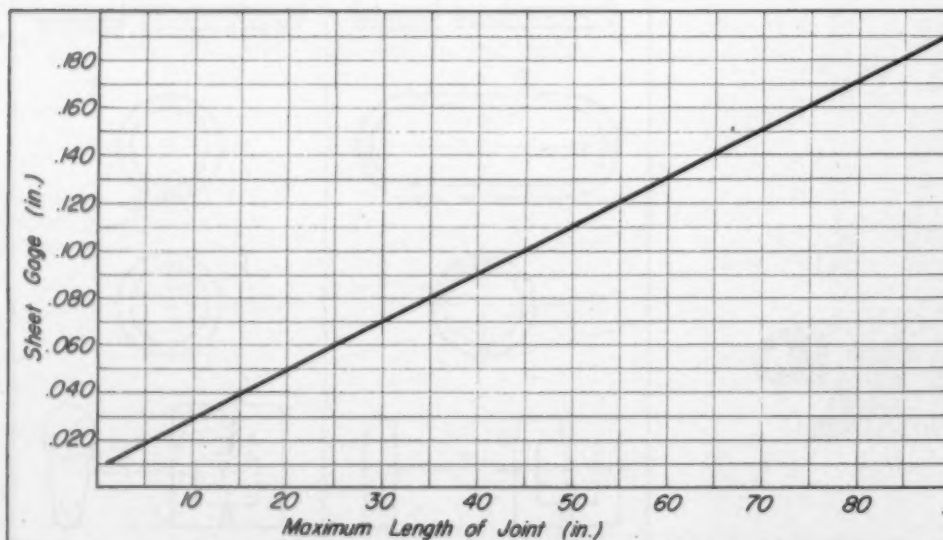

Fig. 9—Chart giving relation between sheet thickness and maximum length of joint
**Sheet and Tubing:** To assure good production design, satisfactory welds and economy, certain limitations on length of joint with flat sheets and diameter of tubing must be observed. In Fig. 9, the recommended maximum joint length for flat sheets is shown and in Fig. 10 is that for tubing. Other sizes can be run but ordinarily incur excessive problems in production or result in only fair or poor joints.